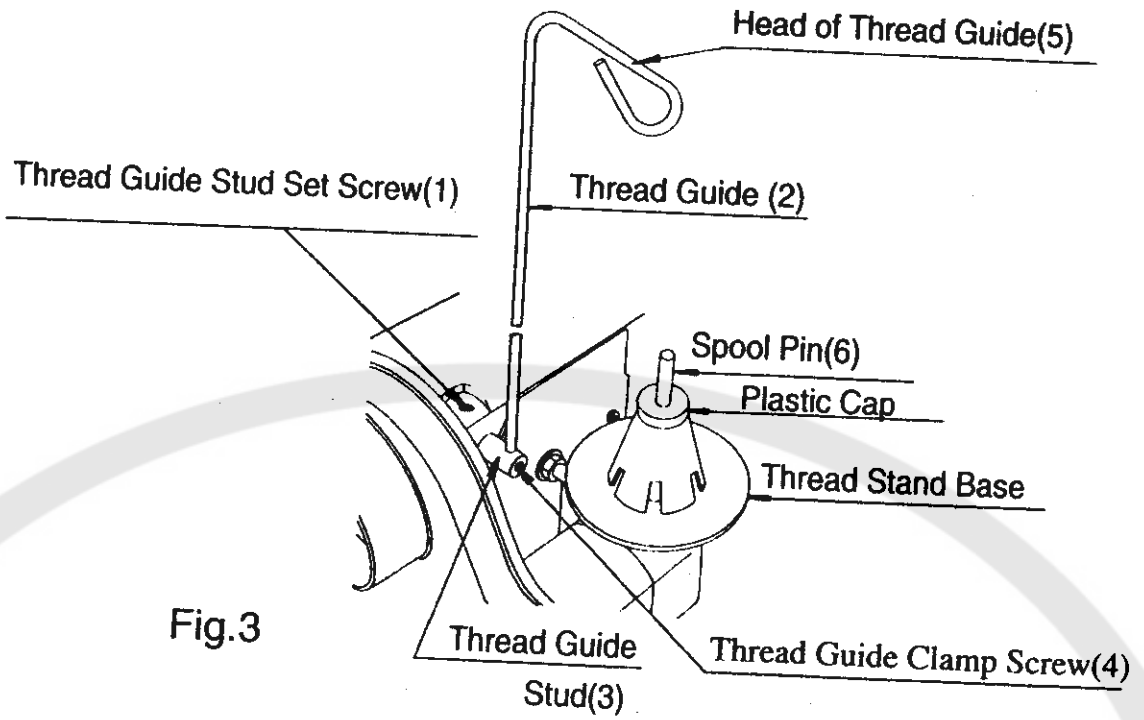

Fig.3
B. Installing Thread Stand (Fig.3)